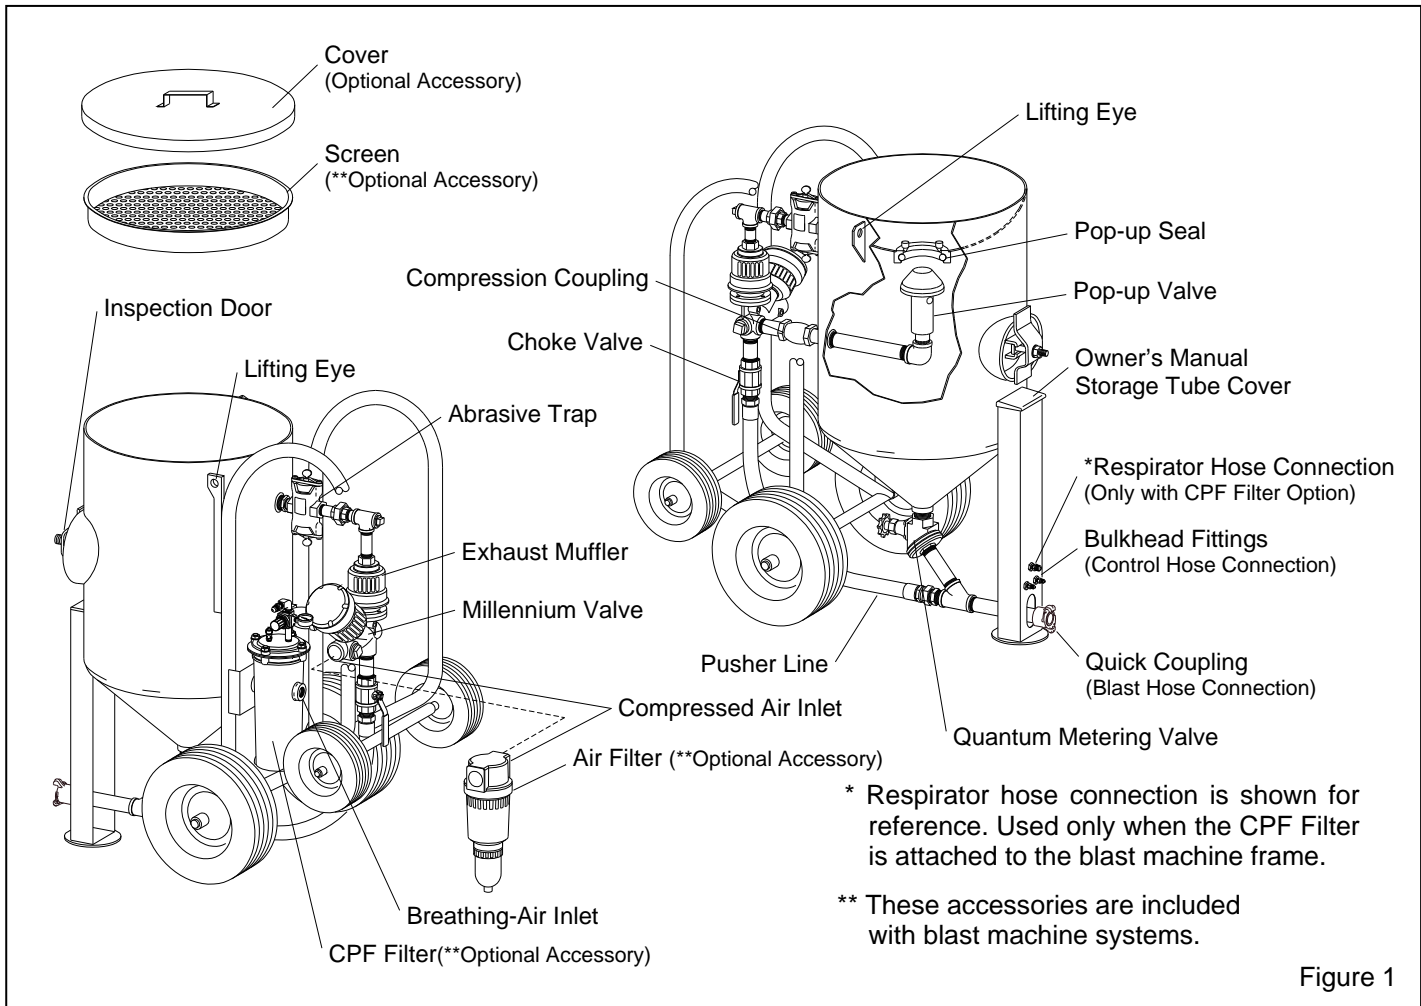

Figure 1
1.3.1.1 The primary components of the Contractor machines are shown in Figure 1. They include the blast machine with Millennium remote controls, manually-operated Quantum abrasive metering valve, and frame assembly. Blast machine systems also include optional compressed air filter, and optional CPF particulate air filter.
1.3.4.3 Components of the Millennium remote control system are shown in Figures 1 and 2. They include the Millennium inlet/outlet valve, RLX control handle, 50-ft. and 4-ft. long twinline control hoses, and abrasive trap, shown in Figure 1.